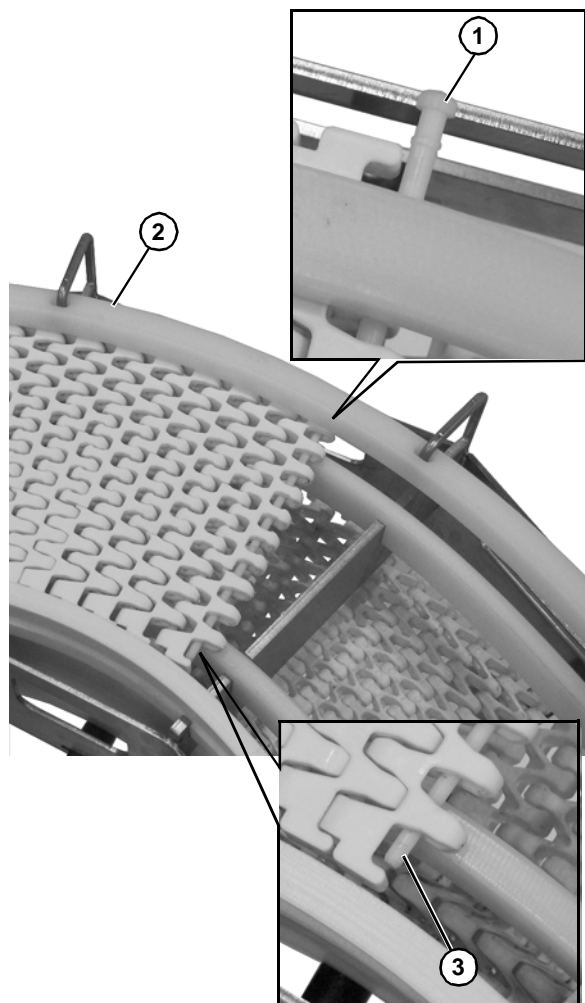

Figure 34
2. Orient the belt direction such that the pin heads (Figure 34, item 1) are on the outside of the belt radius (Figure 34, item 2). The straight portion on the pin (Figure 34, item 3) will be on the inside radius.